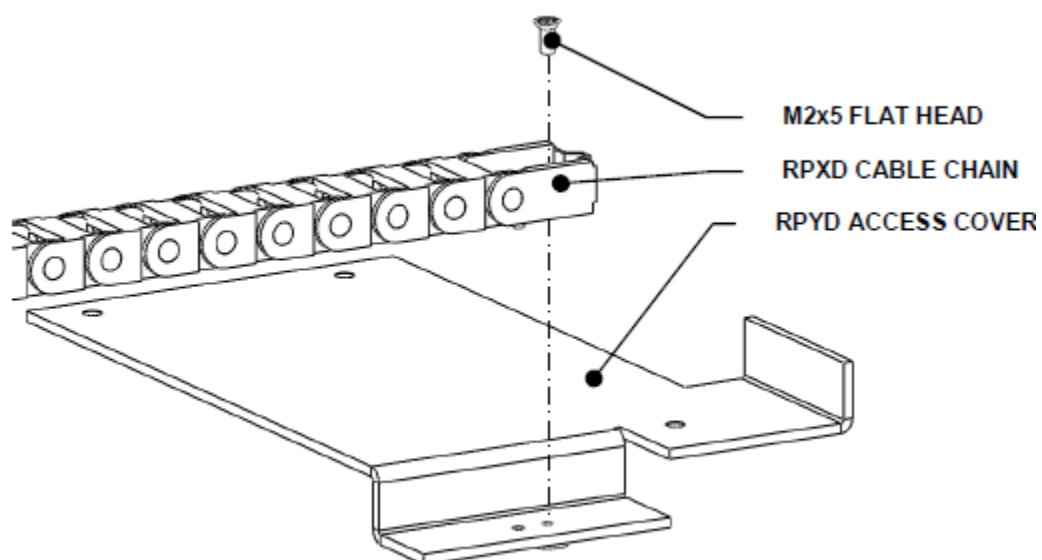

Figure Q-6: Removing the Chain Attachment Screw
2. Remove the screw that attaches the chain to the adapter (Figure Q-6).